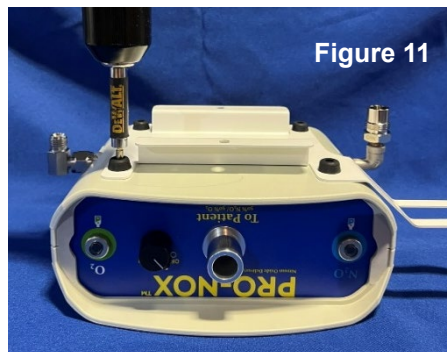

Figure 11
3. Carefully set your Mixer upside on a clean, scratch-free surface. See Figure 11 below.
4. Using a phillips head screwdriver (not included), remove the four (4) black rubber feet from the bottom. Set aside the four (4) black rubber feet for use later. See Figures 11 & 12.